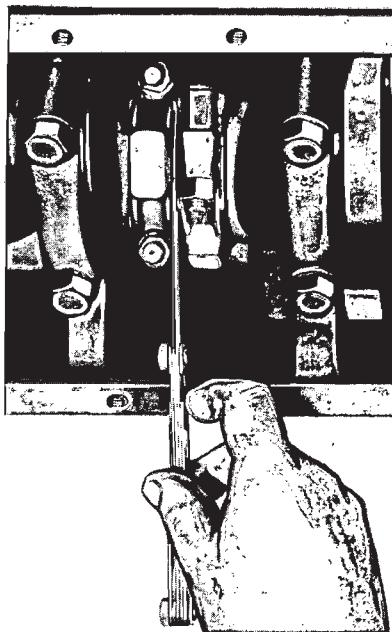

FIG. 38—Checking Connecting Rod Side Clearance
9. After the piston and connecting rod assemblies have been installed, check the side clearance between the connecting rods on each crankshaft journal (Fig. 38).